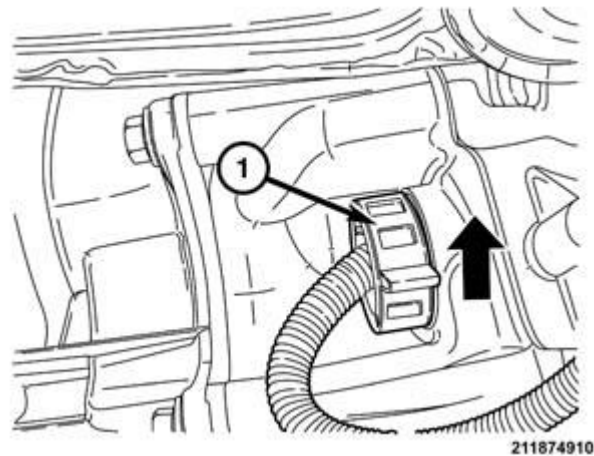

Figure 24 – 13-pin Plug Connector
60. Disconnect the 13-pin plug connector (1). Turn the connector counter-clockwise to release. (Figure 24).